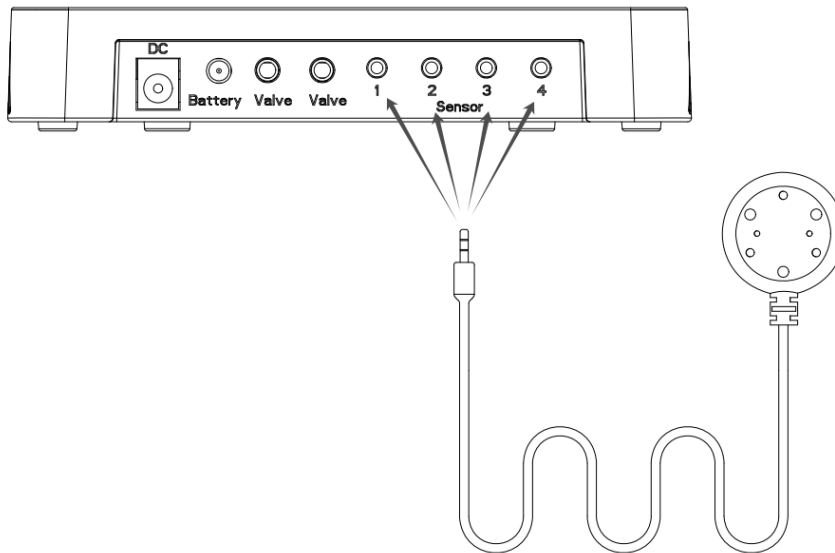

Figure 13
- 1) Connect the wired water sensor to the central controller (refer to Figure 13).